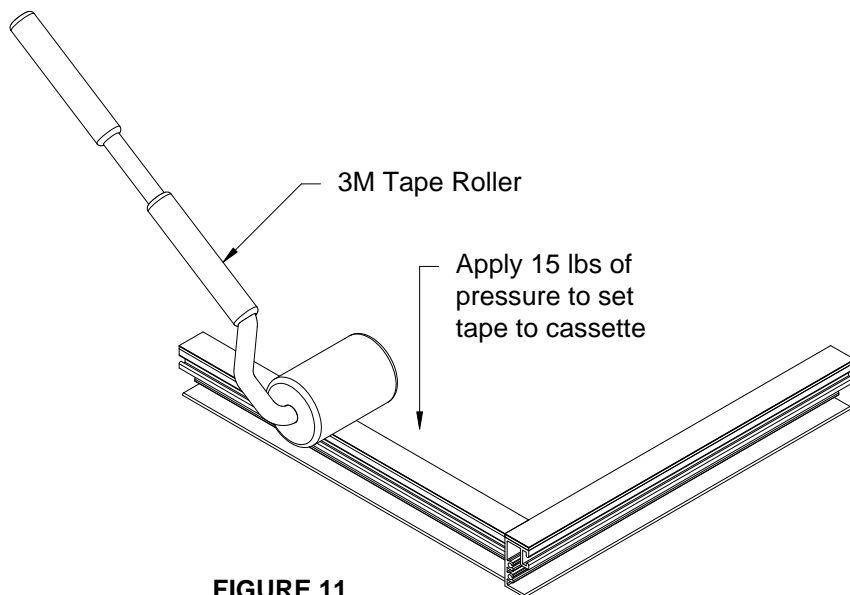

FIGURE 11
- 2.8 Tape is rolled onto cassette using 3M tape roller applying pressure of ~ 15 lbs. SEE FIGURE 11, PAGE 14